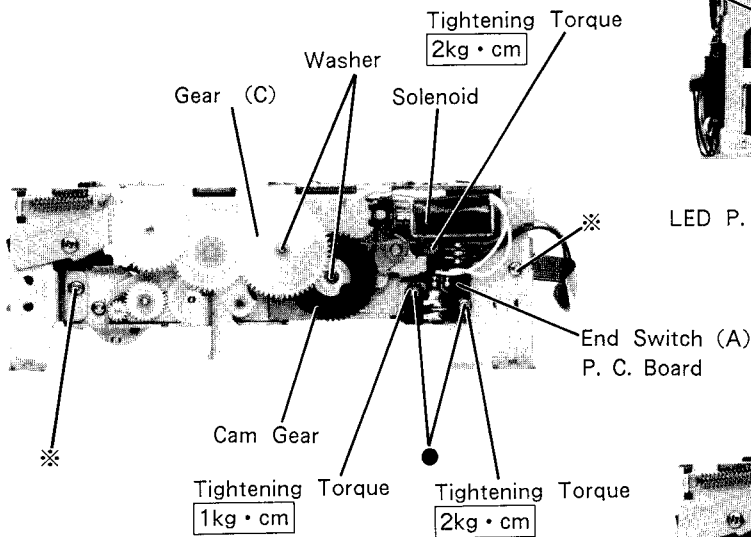

Figure 13
- (1) Remove the two screws marked with "●" as shown in Figure 13.
- (2) Remove the two lead wires from the solenoid.
- (1) Remove the cam gear and the gear (C) as shown in Figure 13.
- (2) Remove the four screws marked with "※" as shown Figures 13 and 14.
- (3) Both the Pick-Up Unit and Rivet Loading Bracket Assembly will be removed.
**Note :**The cam gear and gear (C) are mounted with washers. Do not lose the washers, keep them carefully.